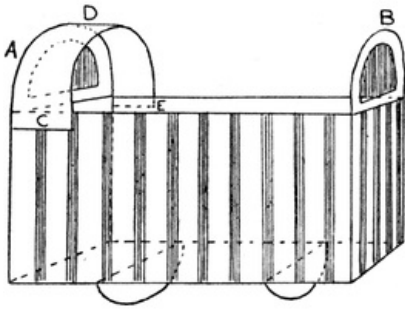
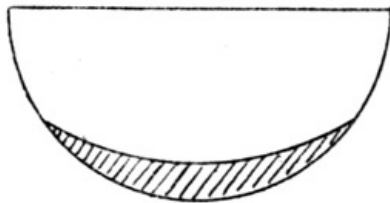

FIG. 17
FIG. 18
**A Cradle** (Fig. 17). Begin with a square (each side four times the diameter of a penny). Fold and gum together as for basket. Cut two round discs of stiff paper the size of a penny. Fold these in half. Gum one half of each disc on to bottom of cradle; the other half forms the rocker. These halves must be made less round by being cut as in Fig. 18, so that the cradle will rock. By means of the penny portions A and B can be cut to form top and bottom of cradle, a strip of paper C D E can be gummed across one end (round A) to form a hood (Fig. 17).